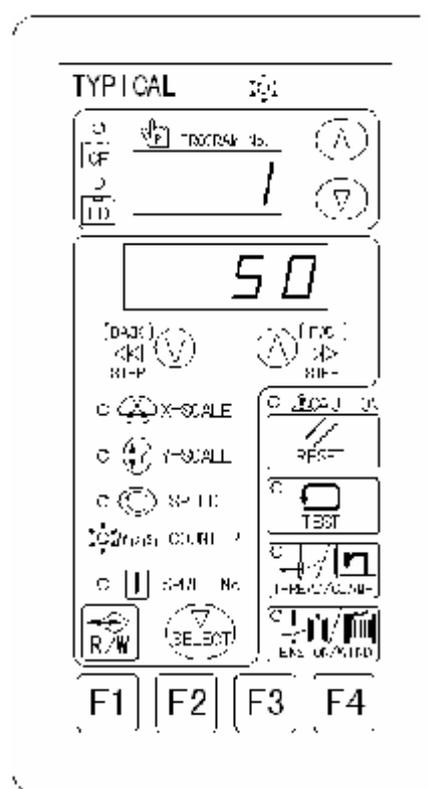

Fig. 5-15
3. Press  key to save set-up and exit the lower thread counter set-up interface, it will return to the sewing count interface automatically (as shown in Fig. 5-15).